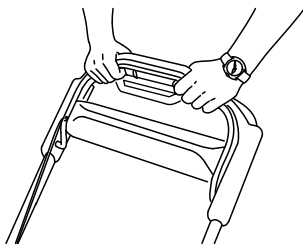

**Figure 22**
1. Pull the blade-control-bar lock back to the blade-control bar (Figure 22).
2. **Slowly** pull the blade-control bar back to the handle (Figure 22).